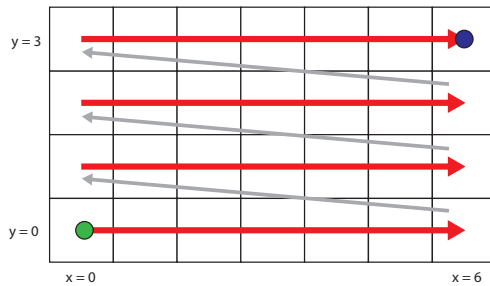

Figure 5.1: The ‘standard’ mode.
The most basic mode is the ‘standard’ mode. Fig. 5.1 shows how the standard mode measures the map  $z(x, y)$ . In this example, we have chosen for  $x = \text{np.linspace}(0, 6, 7)$  and  $y = \text{np.linspace}(0, 3, 4)$ . We start at the green dot and measure  $z(0, 0)$ . Then, we follow the red line, which denotes a *sweep* being performed. Hence, we measure  $z(1, 0), z(2, 0), \dots, z(6, 0)$ . Then, we *move*  $x$  back to its first value (0) and *move*  $y$  to its second value (1). This is denoted by the grey arrow. Now, we sweep  $x$  for  $y = 1$ , move, sweep, etc., until we end up at the blue dot.